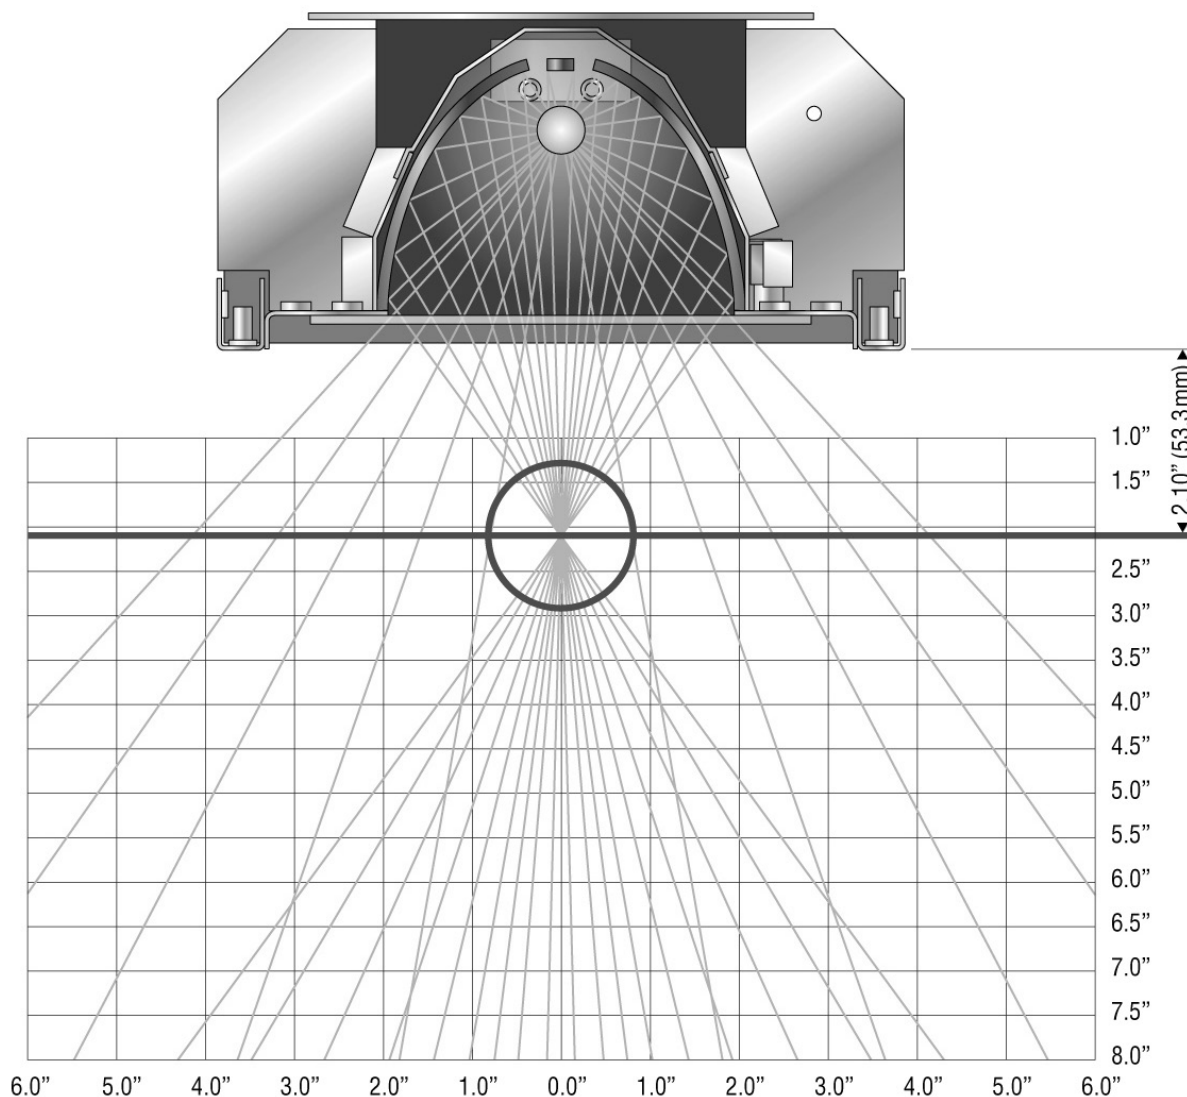
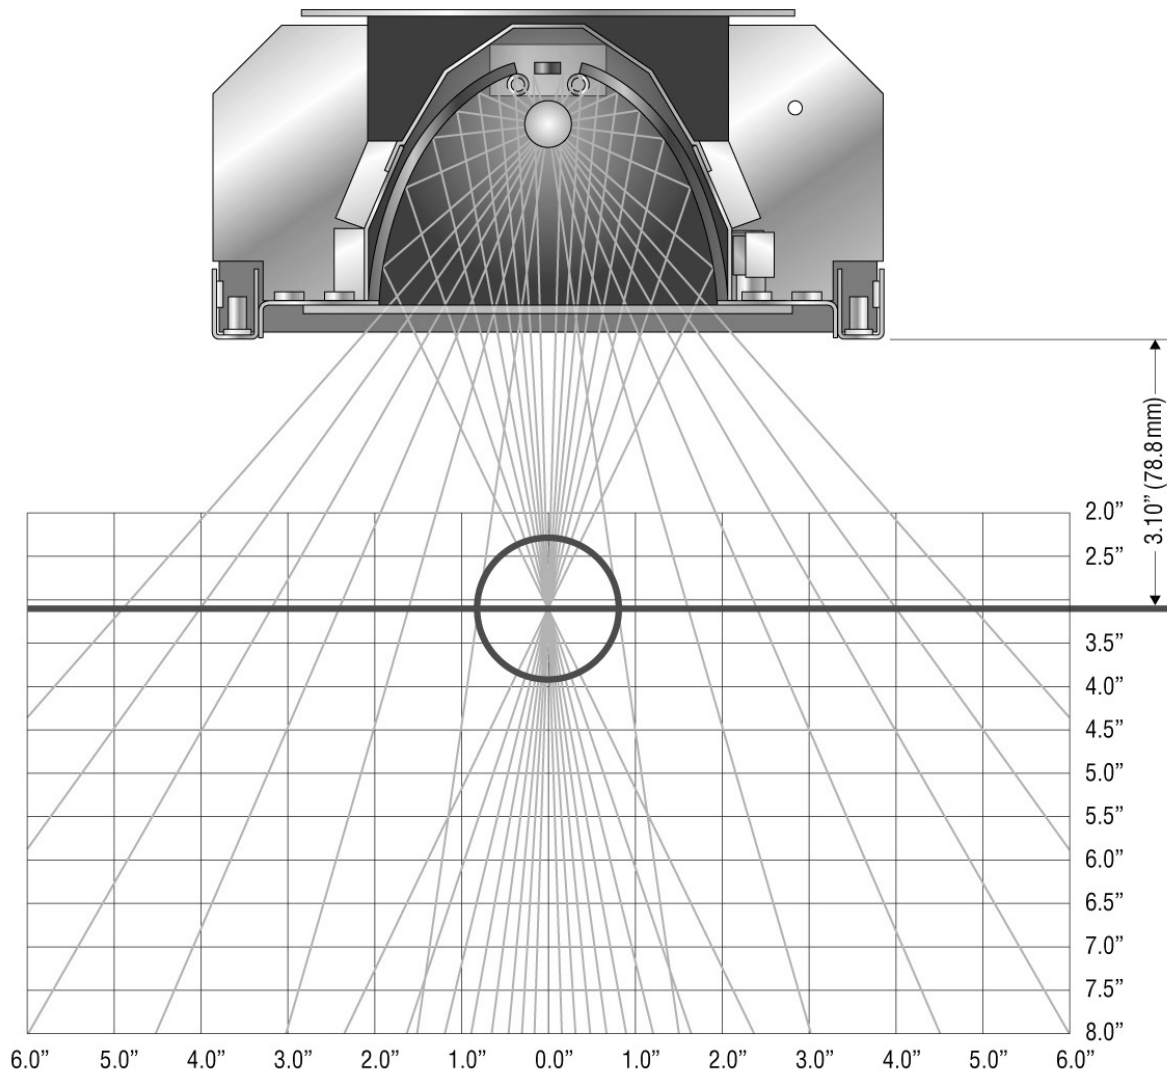

Figure 2-2 2.1 in. Focus Reflectors
Figure 2-3 3.1 in. Focus Reflectors
- The focus reflectors are available in 2.1 in. (53 mm) and 3.1 in. (79 mm) focal lengths. The focal point is measured from the bottom of the lamphead. See Figure 2-2 and Figure 2-3.